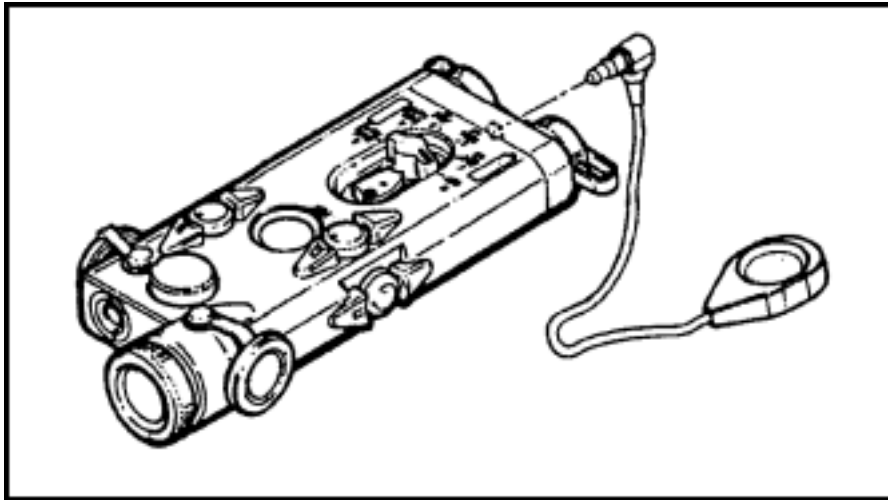

Figure F-10. Installation of the cable switch.
(5) **Cable Switch** (Figure F-10). The cable switch is used when the AN/PEQ-2A is mounted on a weapon. The cable switch plugs into the back of the AN/PEQ-2A assembly. Pressing the button or pad at the end of the cable switch causes the AN/PEQ-2A to turn on in the operational mode selected by the mode select switch. When the button is released, the AN/PEQ-2A turns off.